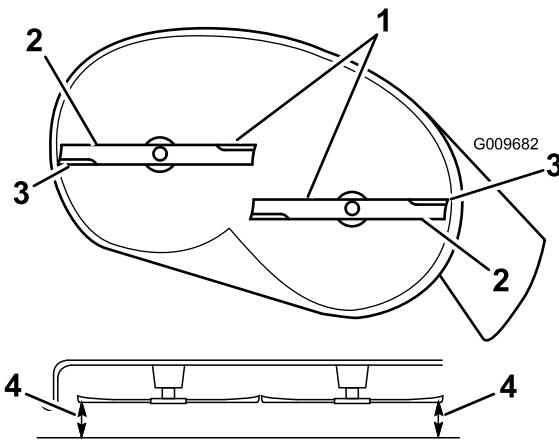
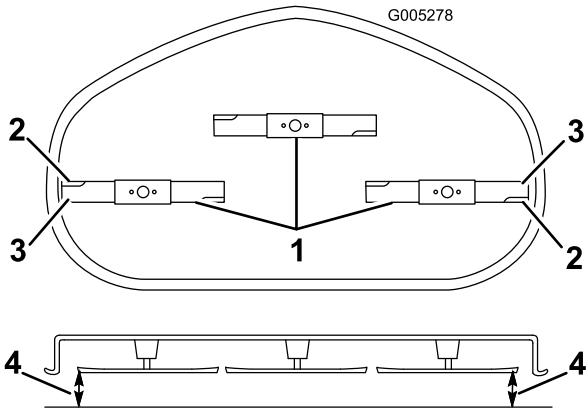

Figure 50
Figure 51
4. Carefully rotate the blades so that they are all side to side (Figure 50 and Figure 51).
5. Measure between the outside cutting edges and the flat surface (Figure 50 and Figure 51). If both measurements are not within 3/16 inch (5 mm), an adjustment is required; continue with this procedure.